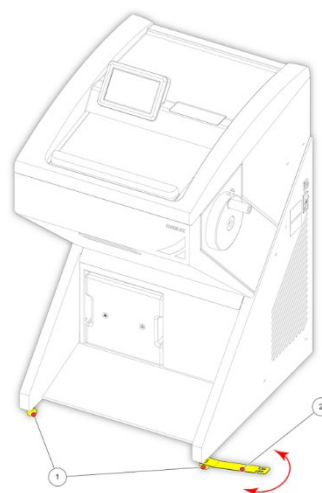

Fig 2a
- The tool (fig. 2a) (item 2) for the height adjustment of the setting feet of the HM525 NX is packed together with the accessories of the HM525 NX (separate carton on the foot rest of the HM525 NX).
- To fix the complete unit, tighten the screws (fig 2a) (item 1) by using the attached tool.